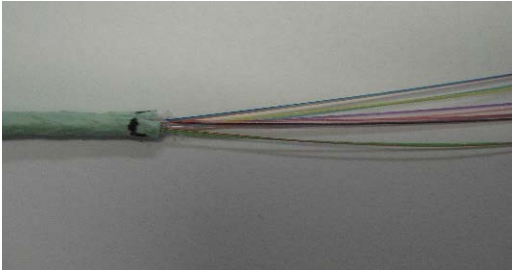

Figure 1
5.5 Separate and organize fiber bundle strands and assemblies. At the point where the strands exit the nylon sub-unit, carefully arrange them so they are not crossed and carefully separate them along their entire length. **(See Fig. 1)**